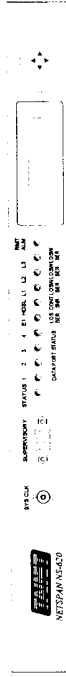

Fig.4-4 NS-620 front view
• The front view of NS-620 (Fig.4-4)